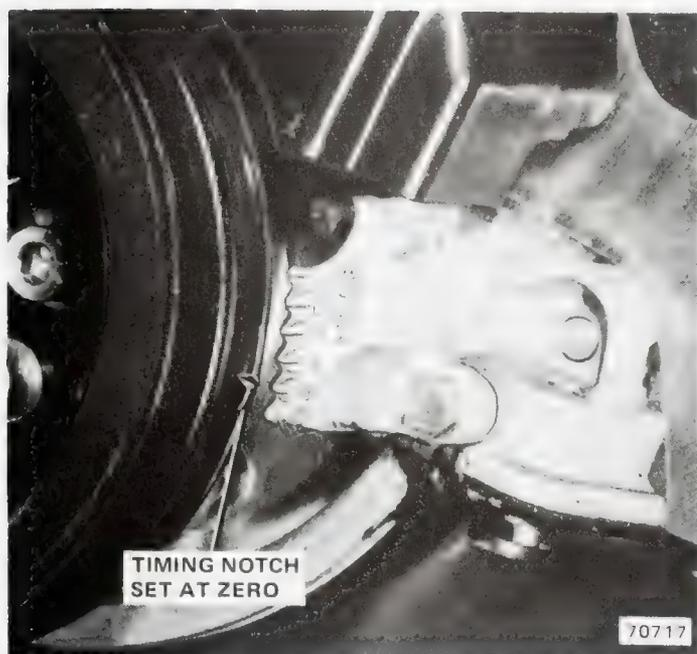

Fig. 1B-9 Crankshaft Timing Mark
(8) Turn offset adjusting nut on tensioning pulley (fig. 1B-10). Turn nut counterclockwise to increase tension. Belt is properly tensioned when drive side of belt can be twisted 90° with fingers.